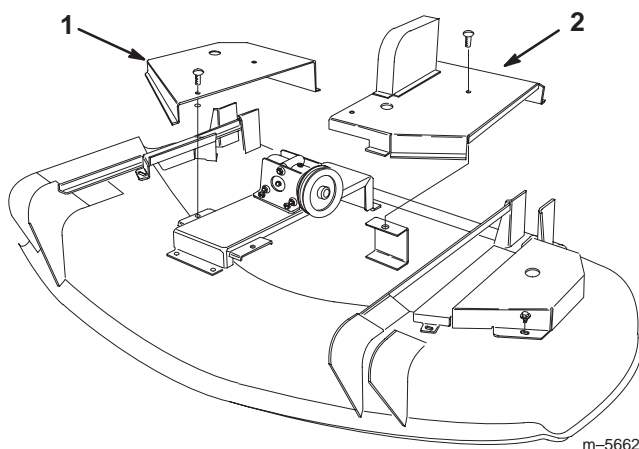

Figure 25
2. Loosen the fasteners holding the left and right center deck covers and remove both center deck covers (Fig. 25).
6. Install both center deck covers onto the deck with fasteners (Fig. 25).